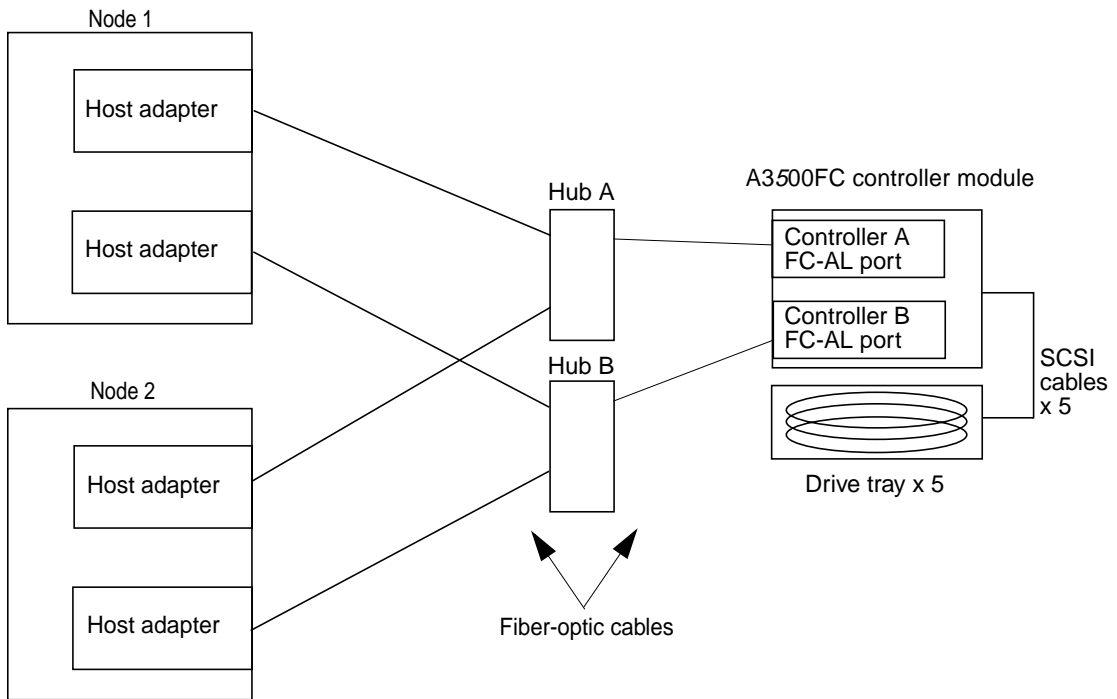

FIGURE 7-5 Sample StorEdge A3500FC Cabling (2nd Node Attached)
- If you are installing a StorEdge A3500FC controller module, see FIGURE 7-5 for a sample StorEdge A3500FC cabling connection. The example shows two nodes that are connected to a StorEdge A3500FC controller module.